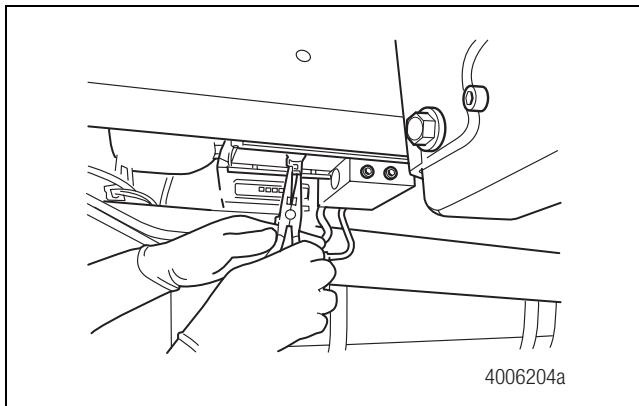

Figure 4.32
- Use needle nose pliers with a good grip to remove the pump from the bore. Use care to prevent damage to the O-rings. Avoid sliding the needle nose pliers on the pump. This can produce metal filings or contaminants which can enter the pump bore. Do not leave any foreign material in the pump bore. Figure 4.32.